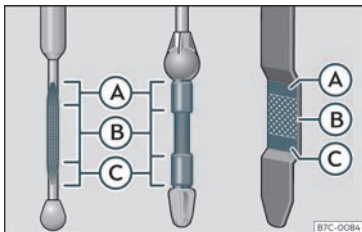

Fig. 203 Engine oil dipstick.
- Then pull it out once more and check the oil level >>> Fig. 203. Top up with engine oil if necessary.
- When the oil level reaches at least zone >>> Fig. 203 (B), unscrew the engine oil filler cap carefully >>> ⚠.
If the oil level is above area»» Fig. 203 , do not start the engine. This could result in damage to the engine and catalytic converter. Contact a specialised workshop.
The oil level must never be above zone »» Fig. 203 . Otherwise oil can be drawn in through the crankcase breather and leak into the atmosphere via the exhaust system.